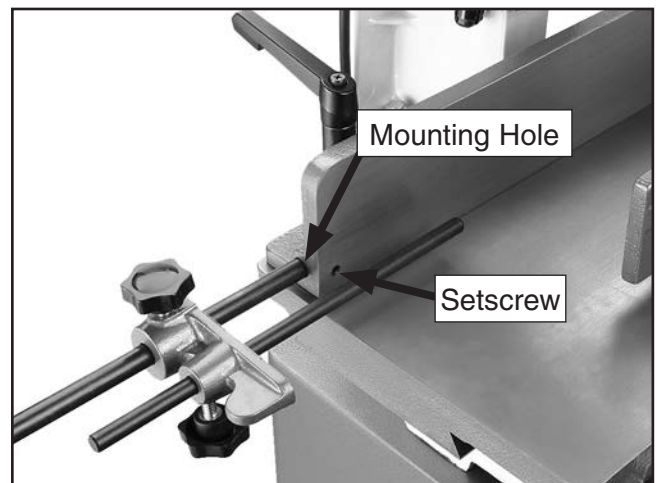

Figure 11. Extendable workstop installed.
1. Slide the larger rod into the mounting hole (**Figure 11**) on either end of the fence and tighten the setscrew.